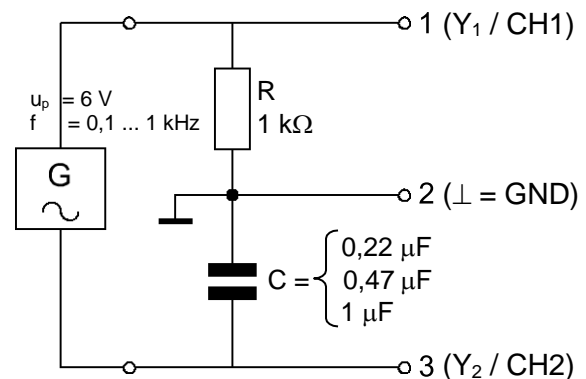

Fig. 9.4.2.1: Exercise circuit to examine the relationship between X_C , f and C
shown in Fig. 9.4.2.1. The current flowing in the capacitor can be calculated from the voltage drop U_R across the resistor $R = 1 \text{ k}\Omega$ (U_R and I_C in phase).
- Assemble the circuit in Fig. 9.4.2.1 on the Electronic Circuits Board.
- Connect the 2-channel oscilloscope as shown in Fig. 9.4.2.1.